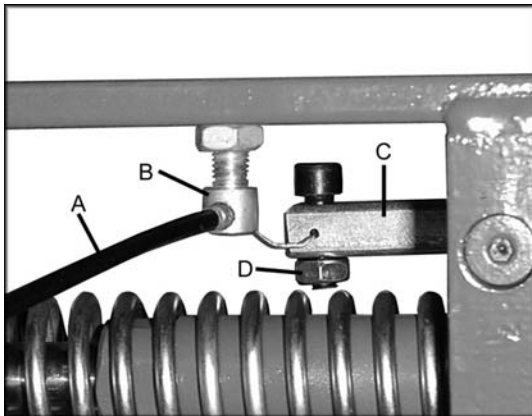

Figure 4
4. Route the cable (A, Figure 4) into the cable nut (B, Figure 4). Run the cable through the lowering mechanism (C, Figure 4) and pull the cable tight. Tighten the hex nut (D, Figure 4) using a 14mm wrench.